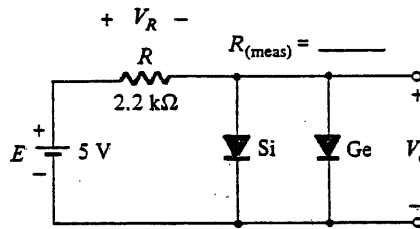

Figure 3-6
- a. Construct the network of Fig. 3.6. Record the measured value of  $R$ .